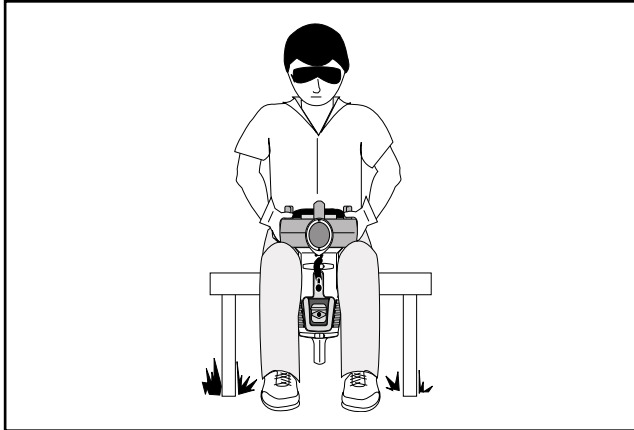

Fig. 4
1. Turn the blower upside down as shown in Fig. 4. Hold the blower between your knees to install the adapter and vacuum tubes.